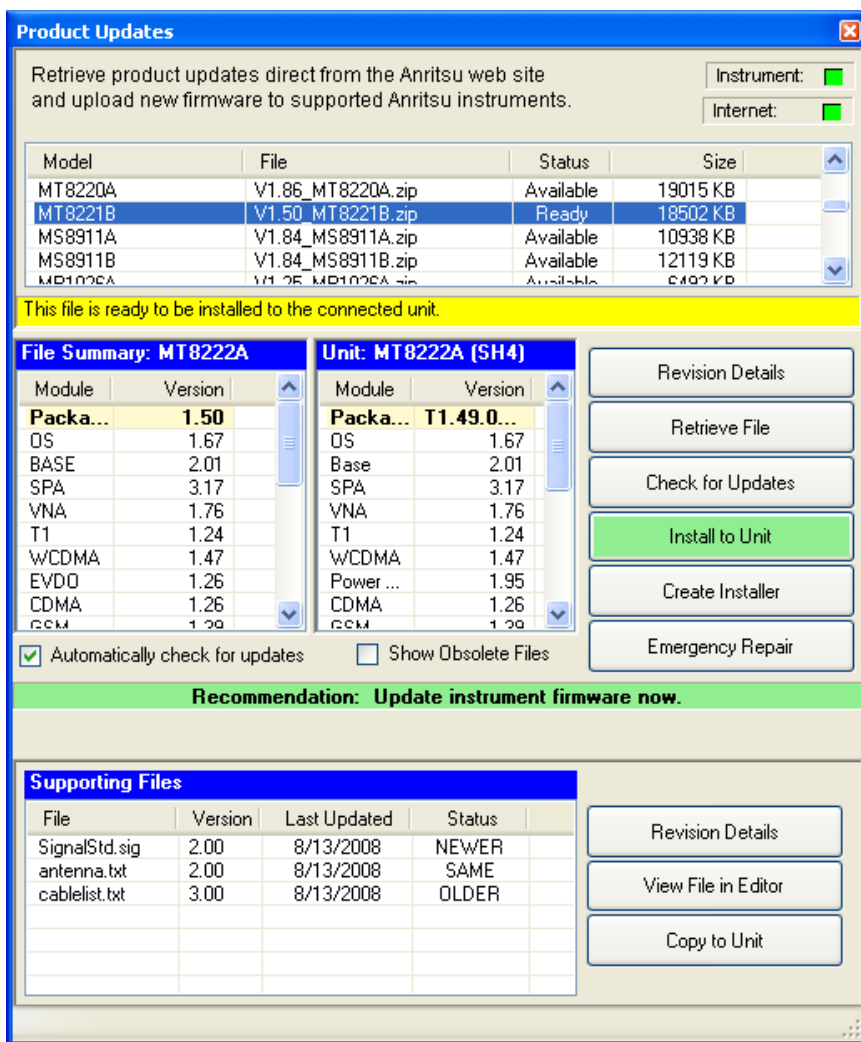
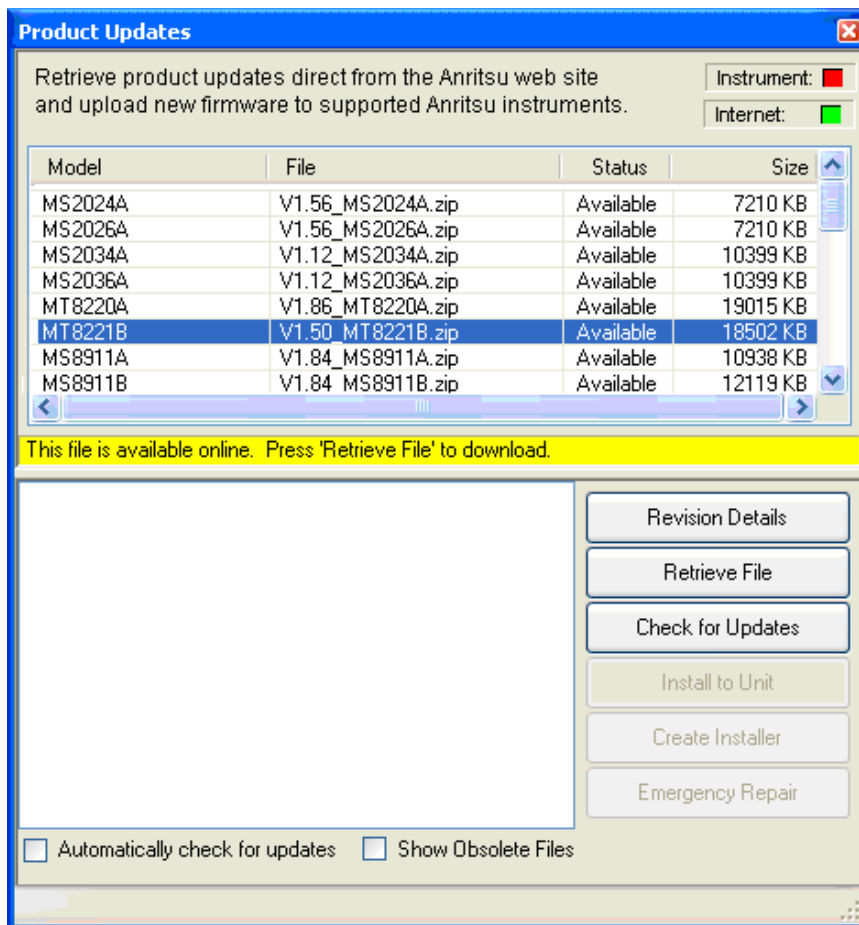

Figure 8-3. Product Updates Window: Status Ready
Figure 8-4. Product Updates Window: Status Available
5. Notice the differences in the two Product Update windows in Figure 8-3 and Figure 8-4.
In Figure 8-3, the status of the highlighted file is Ready, and the Install to Unit button is active. You can immediately click Install to Unit to update your BTS Master with the new firmware.
In Figure 8-4, the status of the highlighted file is Available, and the Install to Unit button is gray and inactive. This means that the updated file is on the Anritsu Product Support Web site and needs to be downloaded to your PC. After the file has been downloaded and placed on your PC, its status changes to Ready, and the Install to Unit button becomes active.